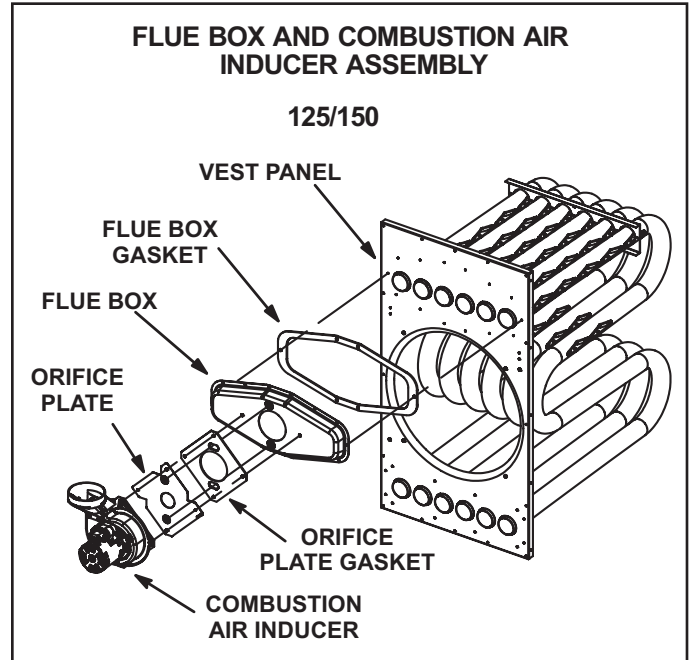

FIGURE 3
- 3 - Before making an electrical or gas connections, use a socket to remove the four screws which secure the combustion air inducer to the flue box. See figure 3.